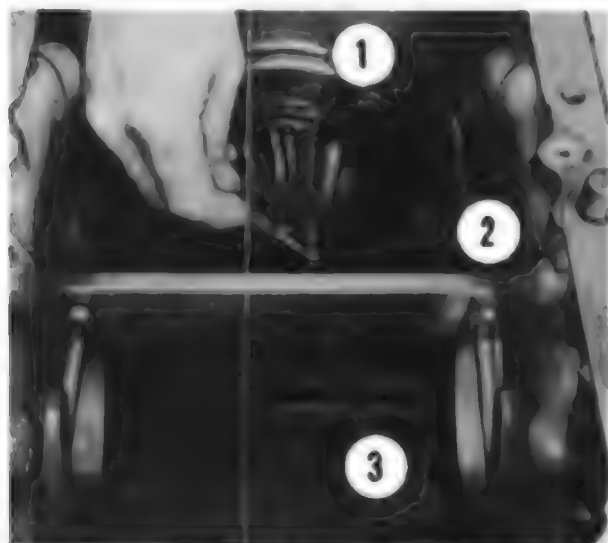

Fig. 98 - Use IH Tool No. FES 143-2 and telescoping gage when checking bevel pinion shaft setting.
Using Fig. 91 or 97 as a guide, install countershaft and gears. On Models 684, 784 and 884, install reverse idler gear, thrust washers, bearings and shaft. Then, on all models, with bevel pinion shaft bearings installed adjust pinion position as follows: Install pinion shaft and bearing assembly without shims, brake drum or gears and tighten retaining bolts securely. Note the number etched on the pinion end of shaft. Install pinion gage bar tool IH No. FES 143-2 (3 - Fig. 98). Using a telescoping gage (2), measure the distance between gage bar and pinion (1). The number etched on end of bevel pinion minus 2.500 inches is the specified distance at which the pinion should be set. The difference between the specified distance and the measured distance between gage bar and pinion is the correct amount of shim thickness to be installed. Shims are available in thicknesses of 0.004 and 0.007 inch.